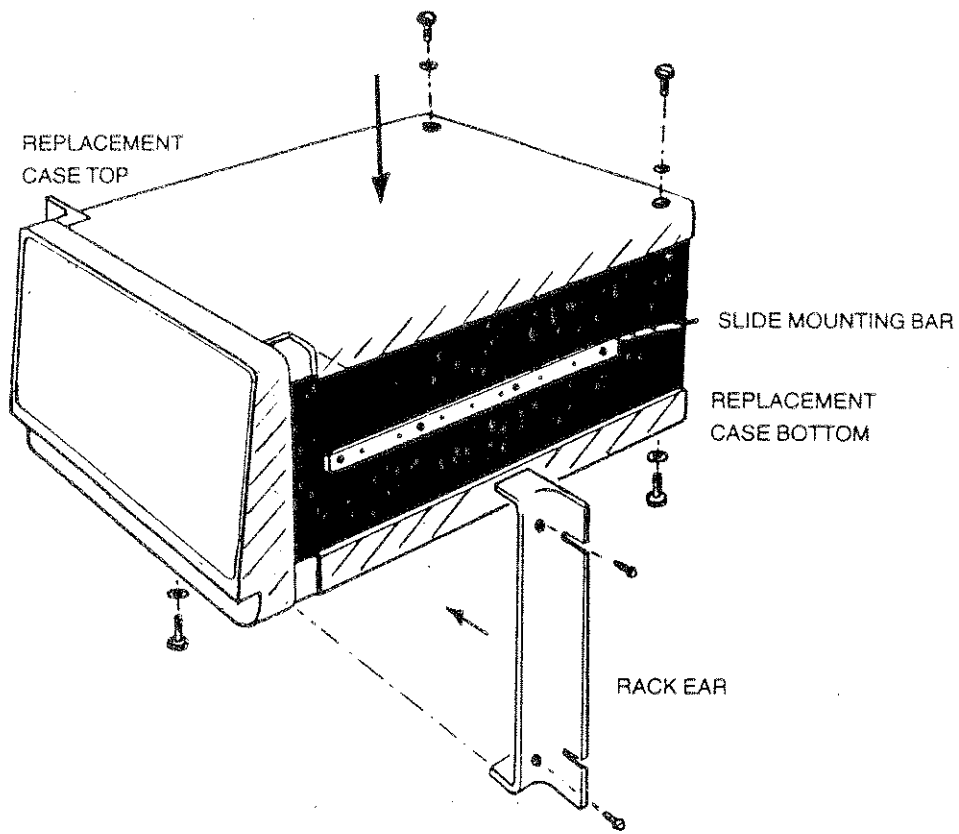

Fig 2.14 *Fitting the rack ears, slide mounting bar, and replacement cases.*
4. As shown in Fig 2.14, fit the following items to the instrument: